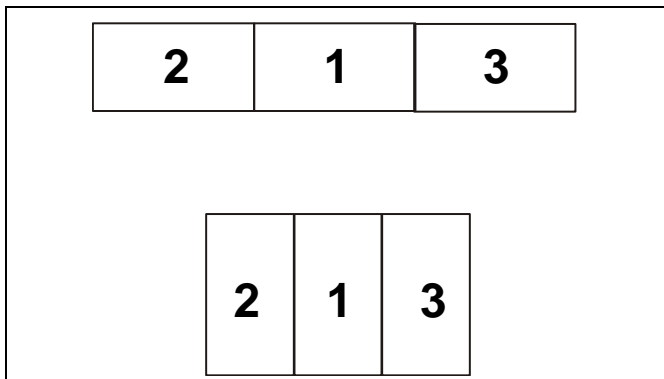

Figure 12
- The center display **MUST** be installed first and centered between two columns (See Figure 12)